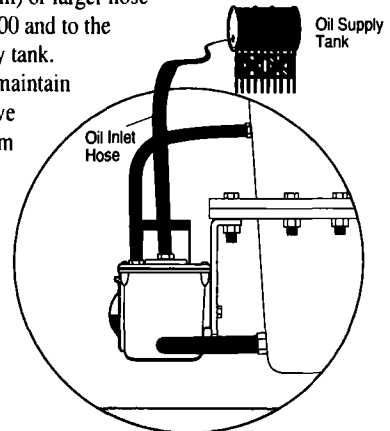

Figure 5
2. Connect a 1/2 inch I.D. (13 mm) or larger hose to oil inlet fitting on the LM300 and to the shutoff valve on the oil supply tank. See Figure 5. The hose must maintain a downward slope and not have low spots or droops. Maximum head pressure rating using standard 1/4 in. (6 mm) orifice is 15 ft. (4.6 meters). See Flow Rate test on page 1 for additional orifice pressure ratings.